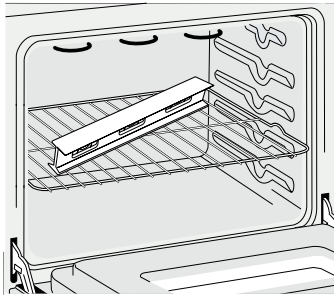

Figure 8
1. Install an oven rack in the center of the oven (see Figure 8).